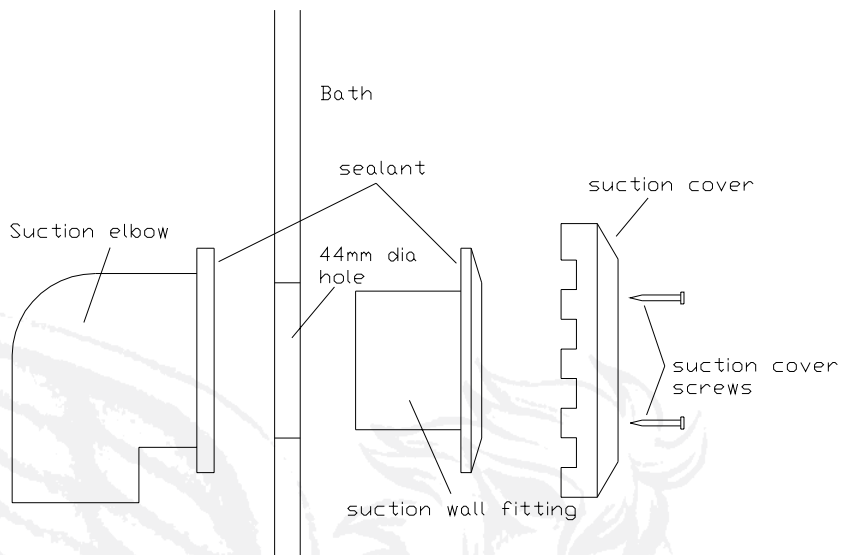

FIG 5
a) Place a bead of sealant around the shoulder of the suction wall fitting and the flange of the suction elbow. Using the key from the Clear water fixing tool, assemble the suction fitting. **Important Note: Do not overtighten.** See Fig. 5.